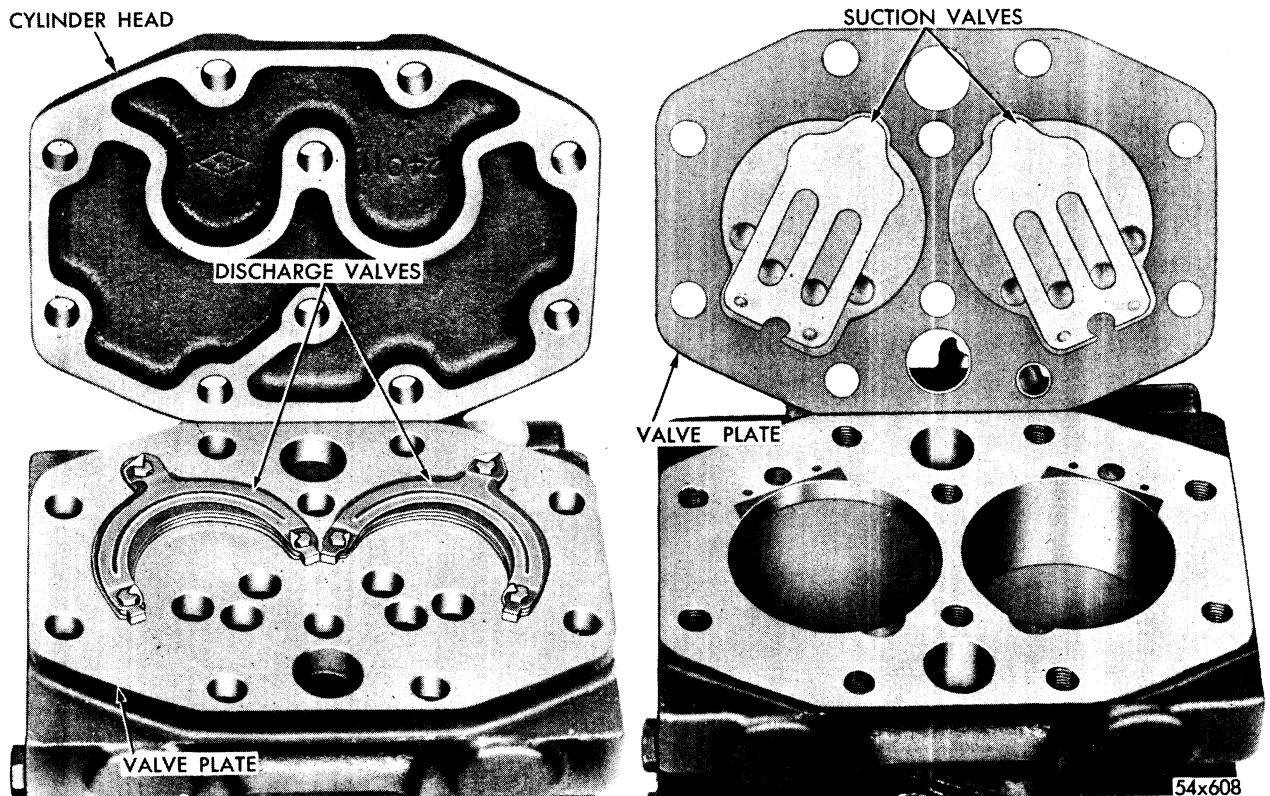

Fig. 9—Valve Plate Assembly
16. REPLACING COMPRESSOR VALVE PLATE ASSEMBLY (FIG. 9)
If compressor is not damaged, clean cylinder block top and cylinder head thoroughly. Be sure to remove all shreds from old gaskets. Install cylinder head bolts in head. Place piece of cardboard over bolt heads and turn assembly upside down. Lay unit on bench, with bolts facing up. Handle new gaskets carefully. Dip new gaskets in clean refrigerant oil. Install cylinder head gasket, valve plate, and valve plate gasket over bolts (Fig. 9). Place assembly carefully on cylinder block and start bolts. Tighten bolts evenly (from center out) 15 to 20 foot-pounds torque. Bleed air from compressor and remove gauge set. Install inlet hose and tube and refill cooling system.